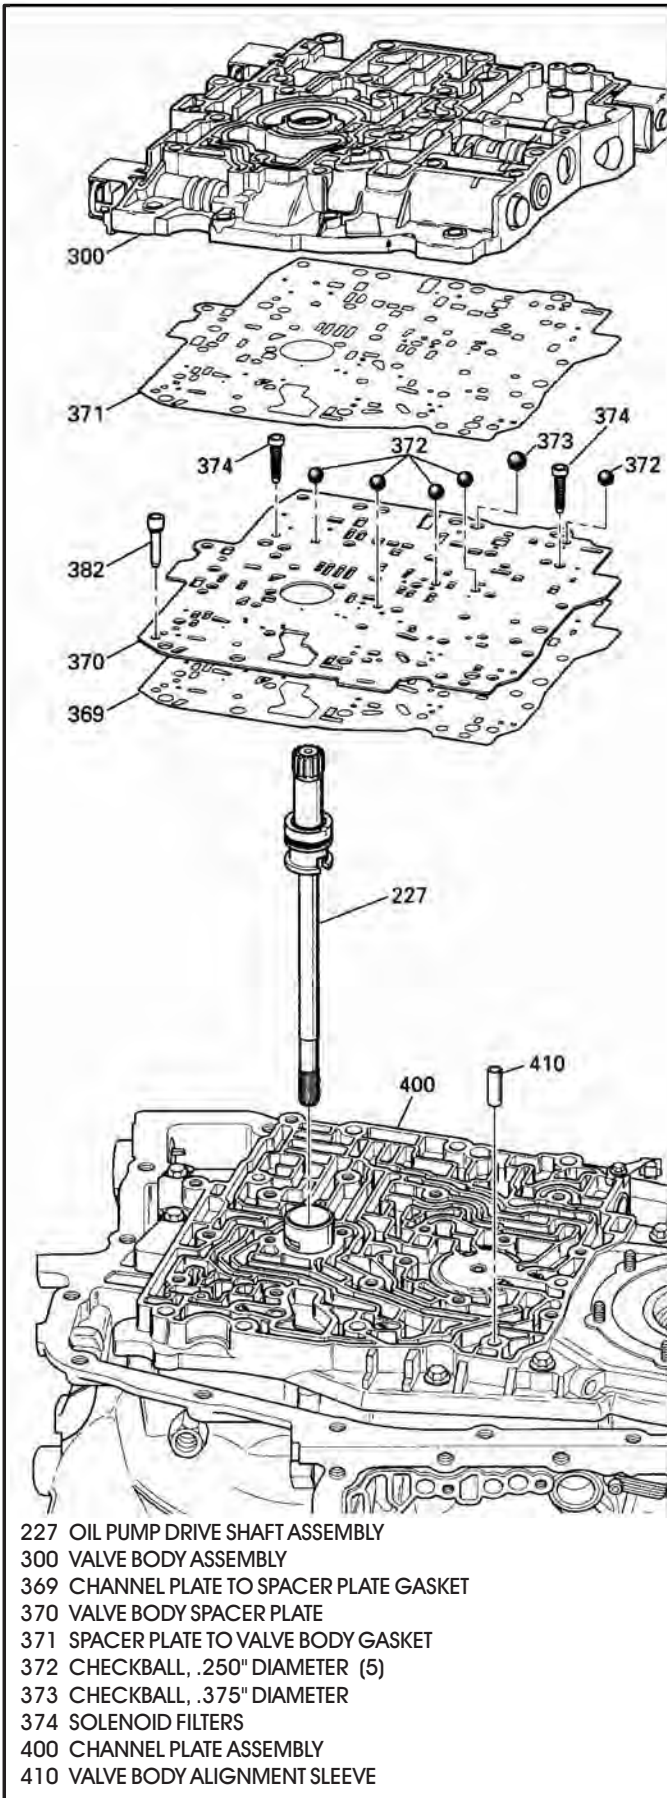

Figure 51
19. Remove the valve body assembly, as shown in Figure 51, and set aside for component rebuild.
20. Remove the checkballs and the valve body spacer plate, as shown in Figure 51.
21. Remove and discard the valve body gaskets, as shown in Figure 51.
22. Remove the valve body alignment sleeve from the channel plate, as shown in Figure 51.
23. Remove the oil pump drive shaft, as shown in Figure 51, remove and discard the sealing ring from pump drive shaft.